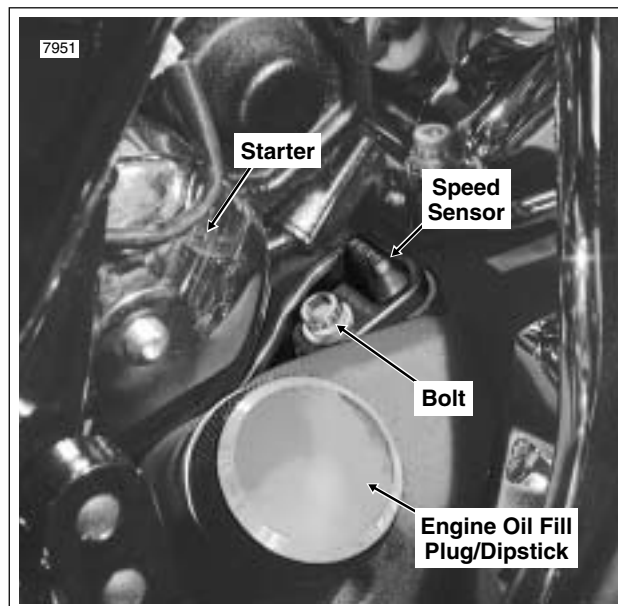

Figure 8-113. Vehicle Speed Sensor Location
8. Locate the vehicle speed sensor mounted next to the starter on the right side of the transmission case. Remove the bolt to free the sensor from the case. See Figure 8-113.